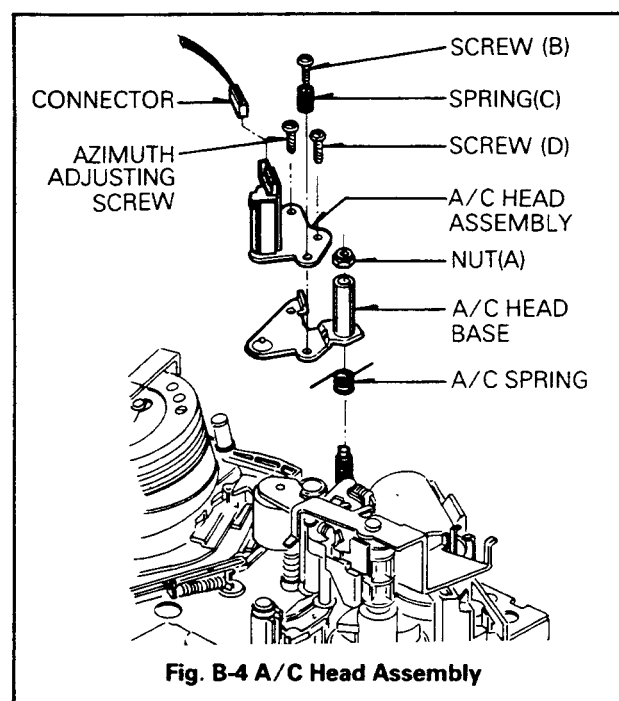

Fig. B-4 A/C Head Assembly
4. A/C(Audio/Control) Head Assembly (Fig.B-4)